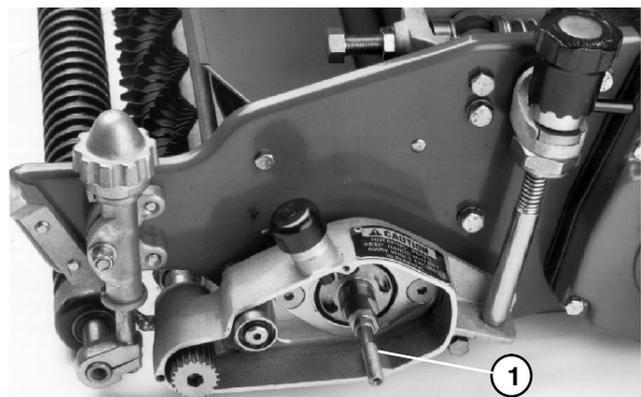

Figure 24
12. Remove the clutch adapter from reel shaft as follows (Fig. 24):